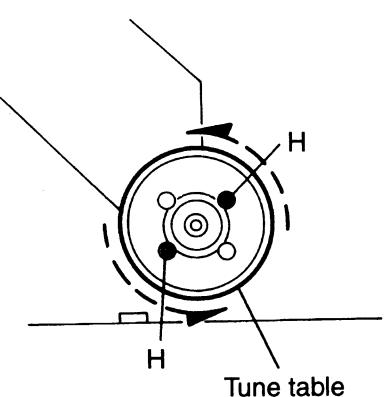

Fig. 24
2. While turning the turntable, remove the two screws (8) retaining the spindle motor and take out the spindle motor (See Fig. 24).